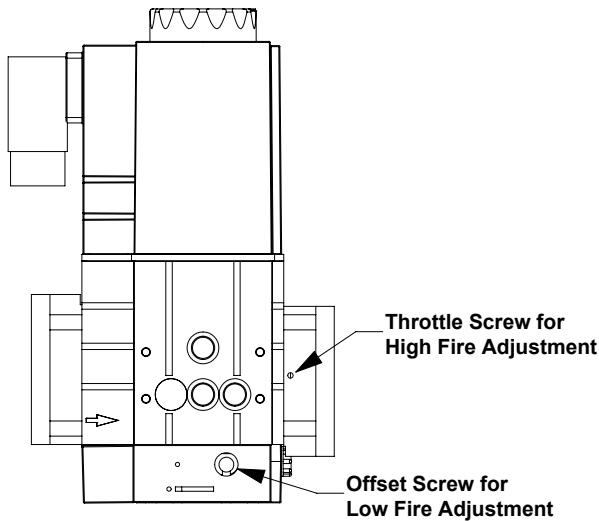

Figure 22: Gas Valve Air-to-Fuel Adjustment
- d. If high fire O₂ is too high (CO₂ is too low), decrease O₂ (increase CO₂) by turning the throttle screw towards the "Plus (+)" sign in 1/4 turn increments and checking the O₂ (or CO₂) after each adjustment. Refer to Figure 22 for location of throttle screw. Verify CO air free is less than 200 ppm.